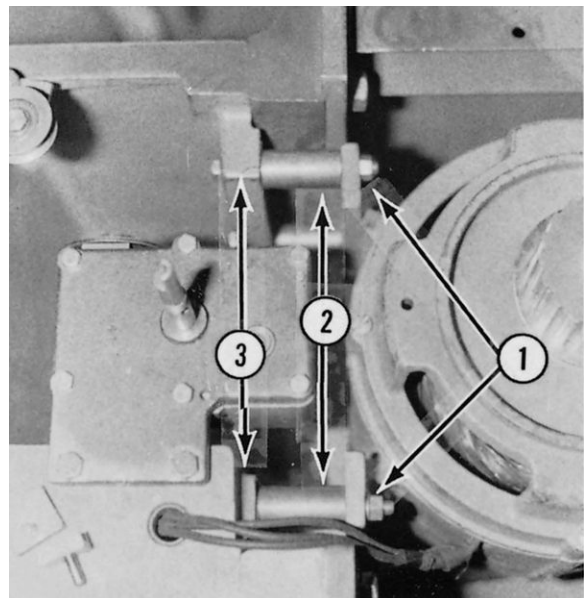

Fig. 8-9
H. Loosen the two top motor mounting bolts (1 Fig. 8-9) and remove the shims. Note the location of each shim as they should be reinstalled in the same position which it was removed.